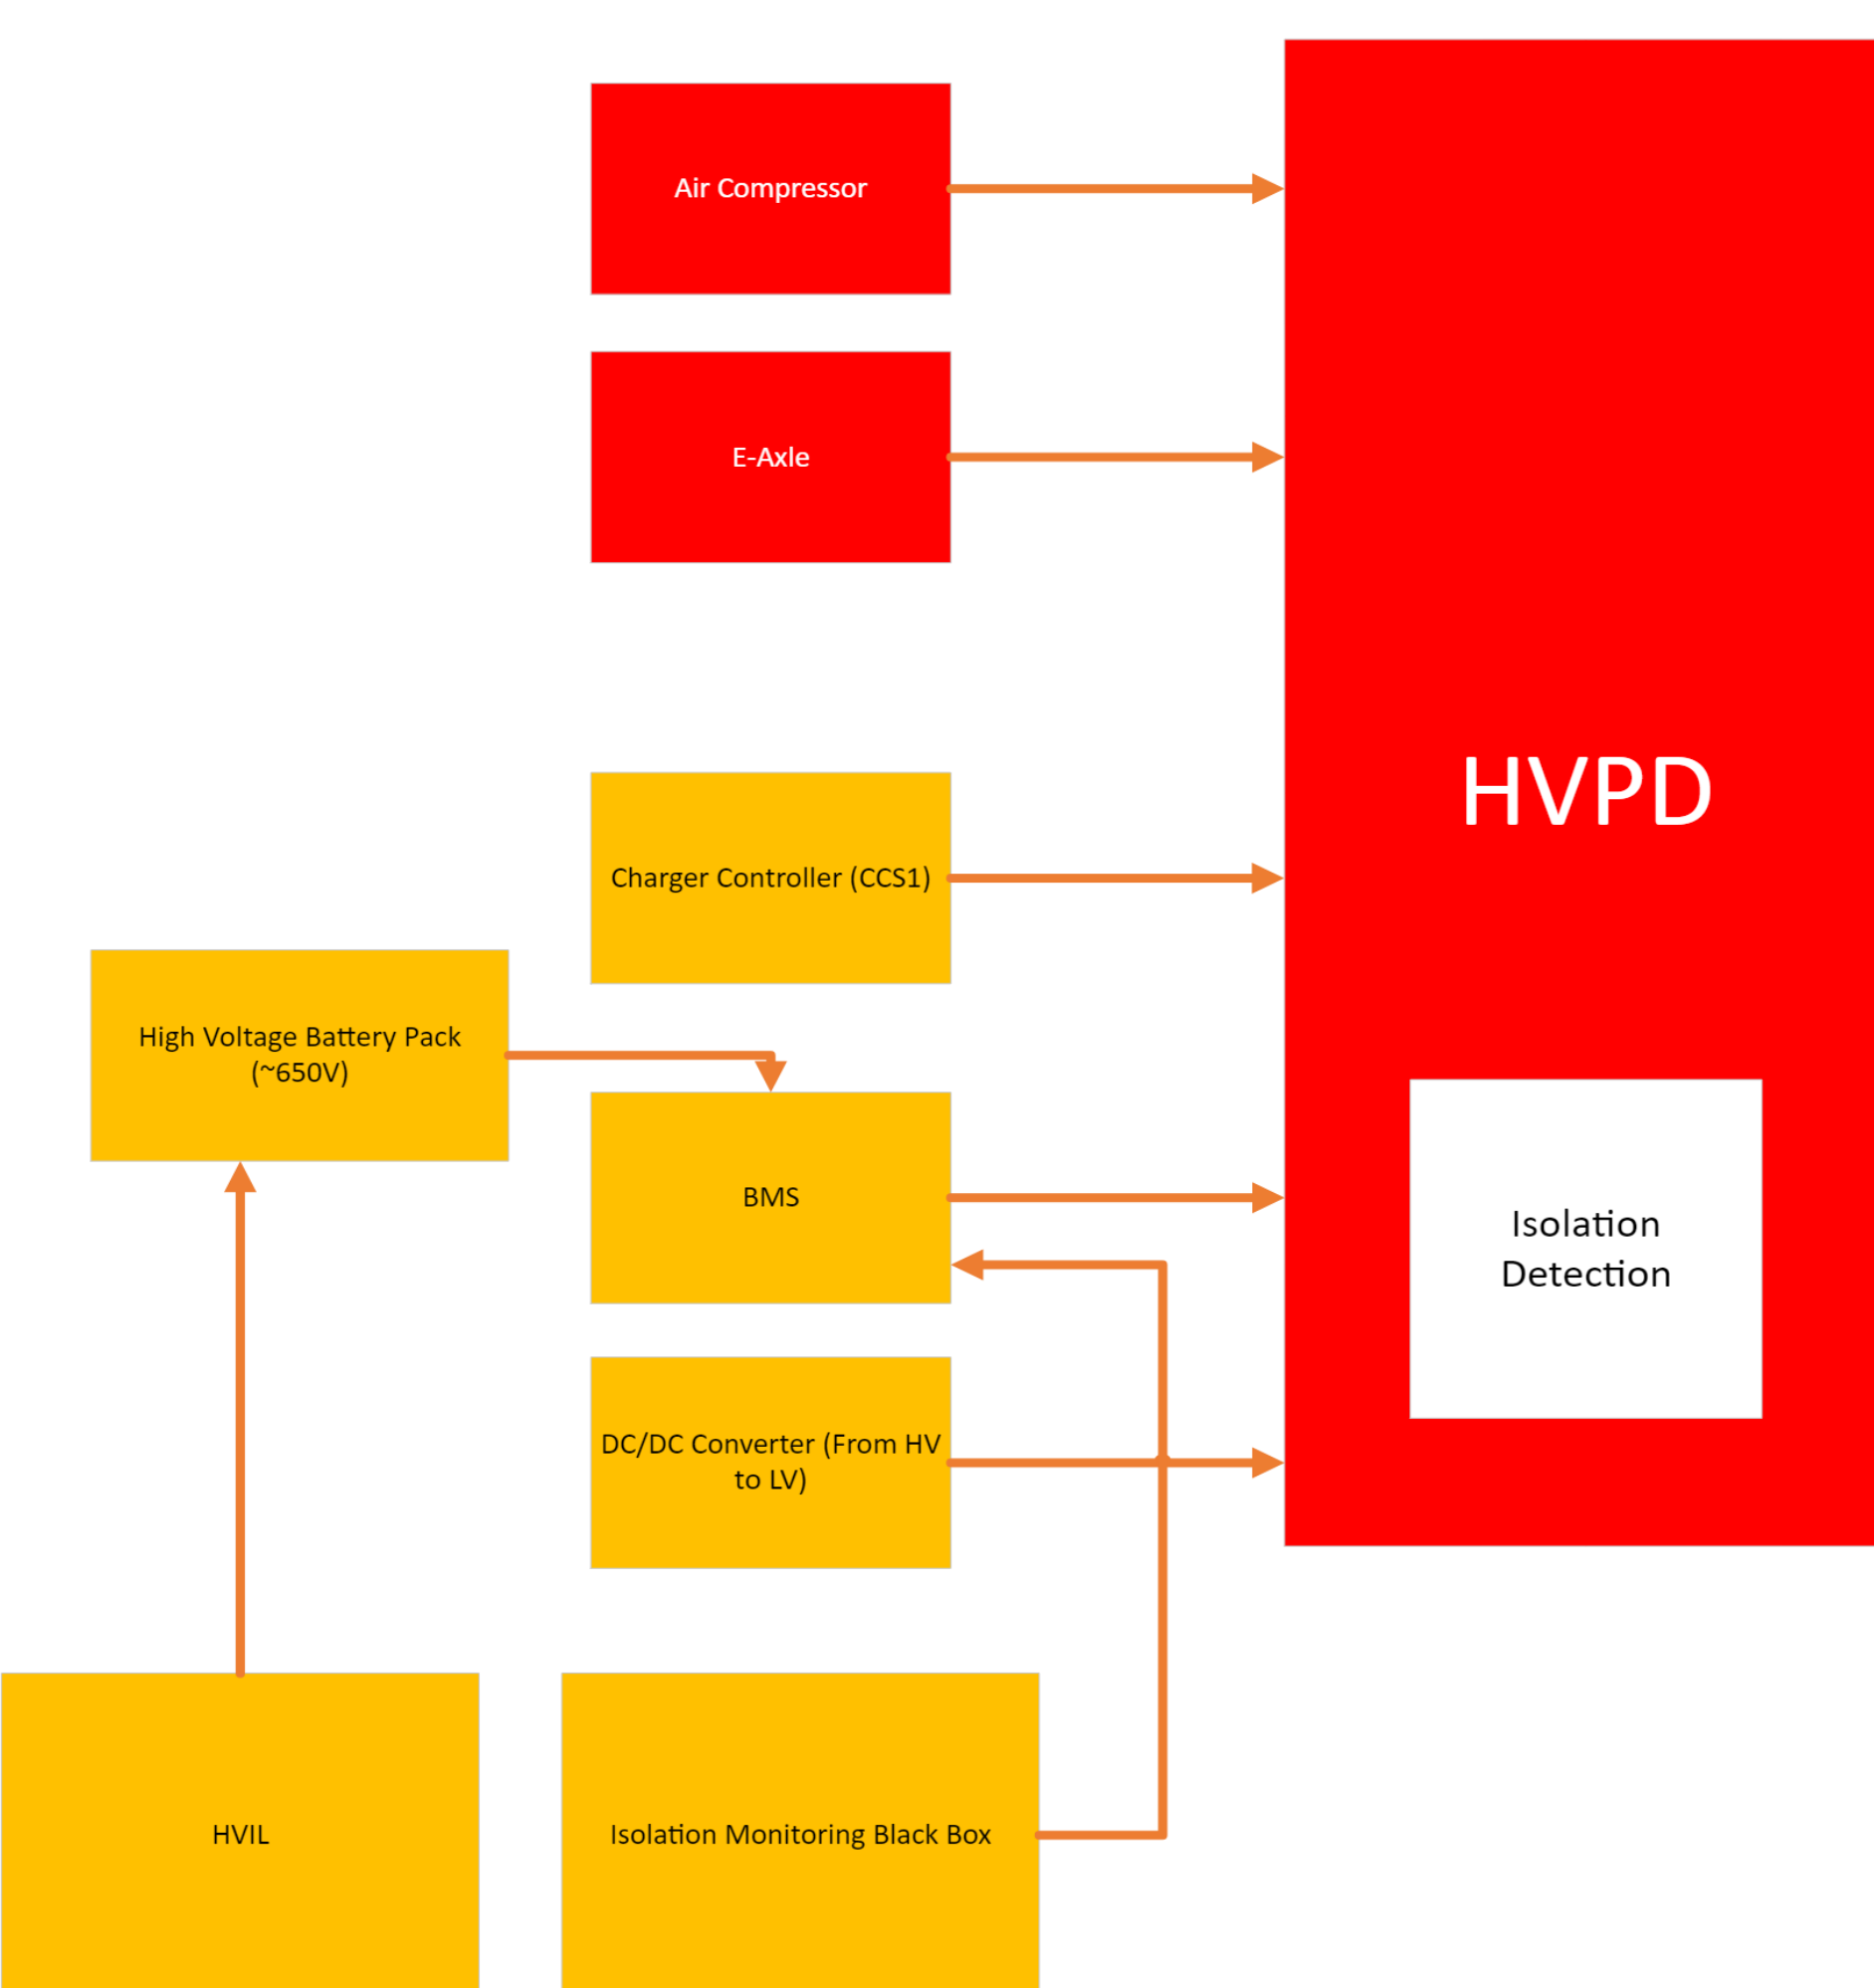
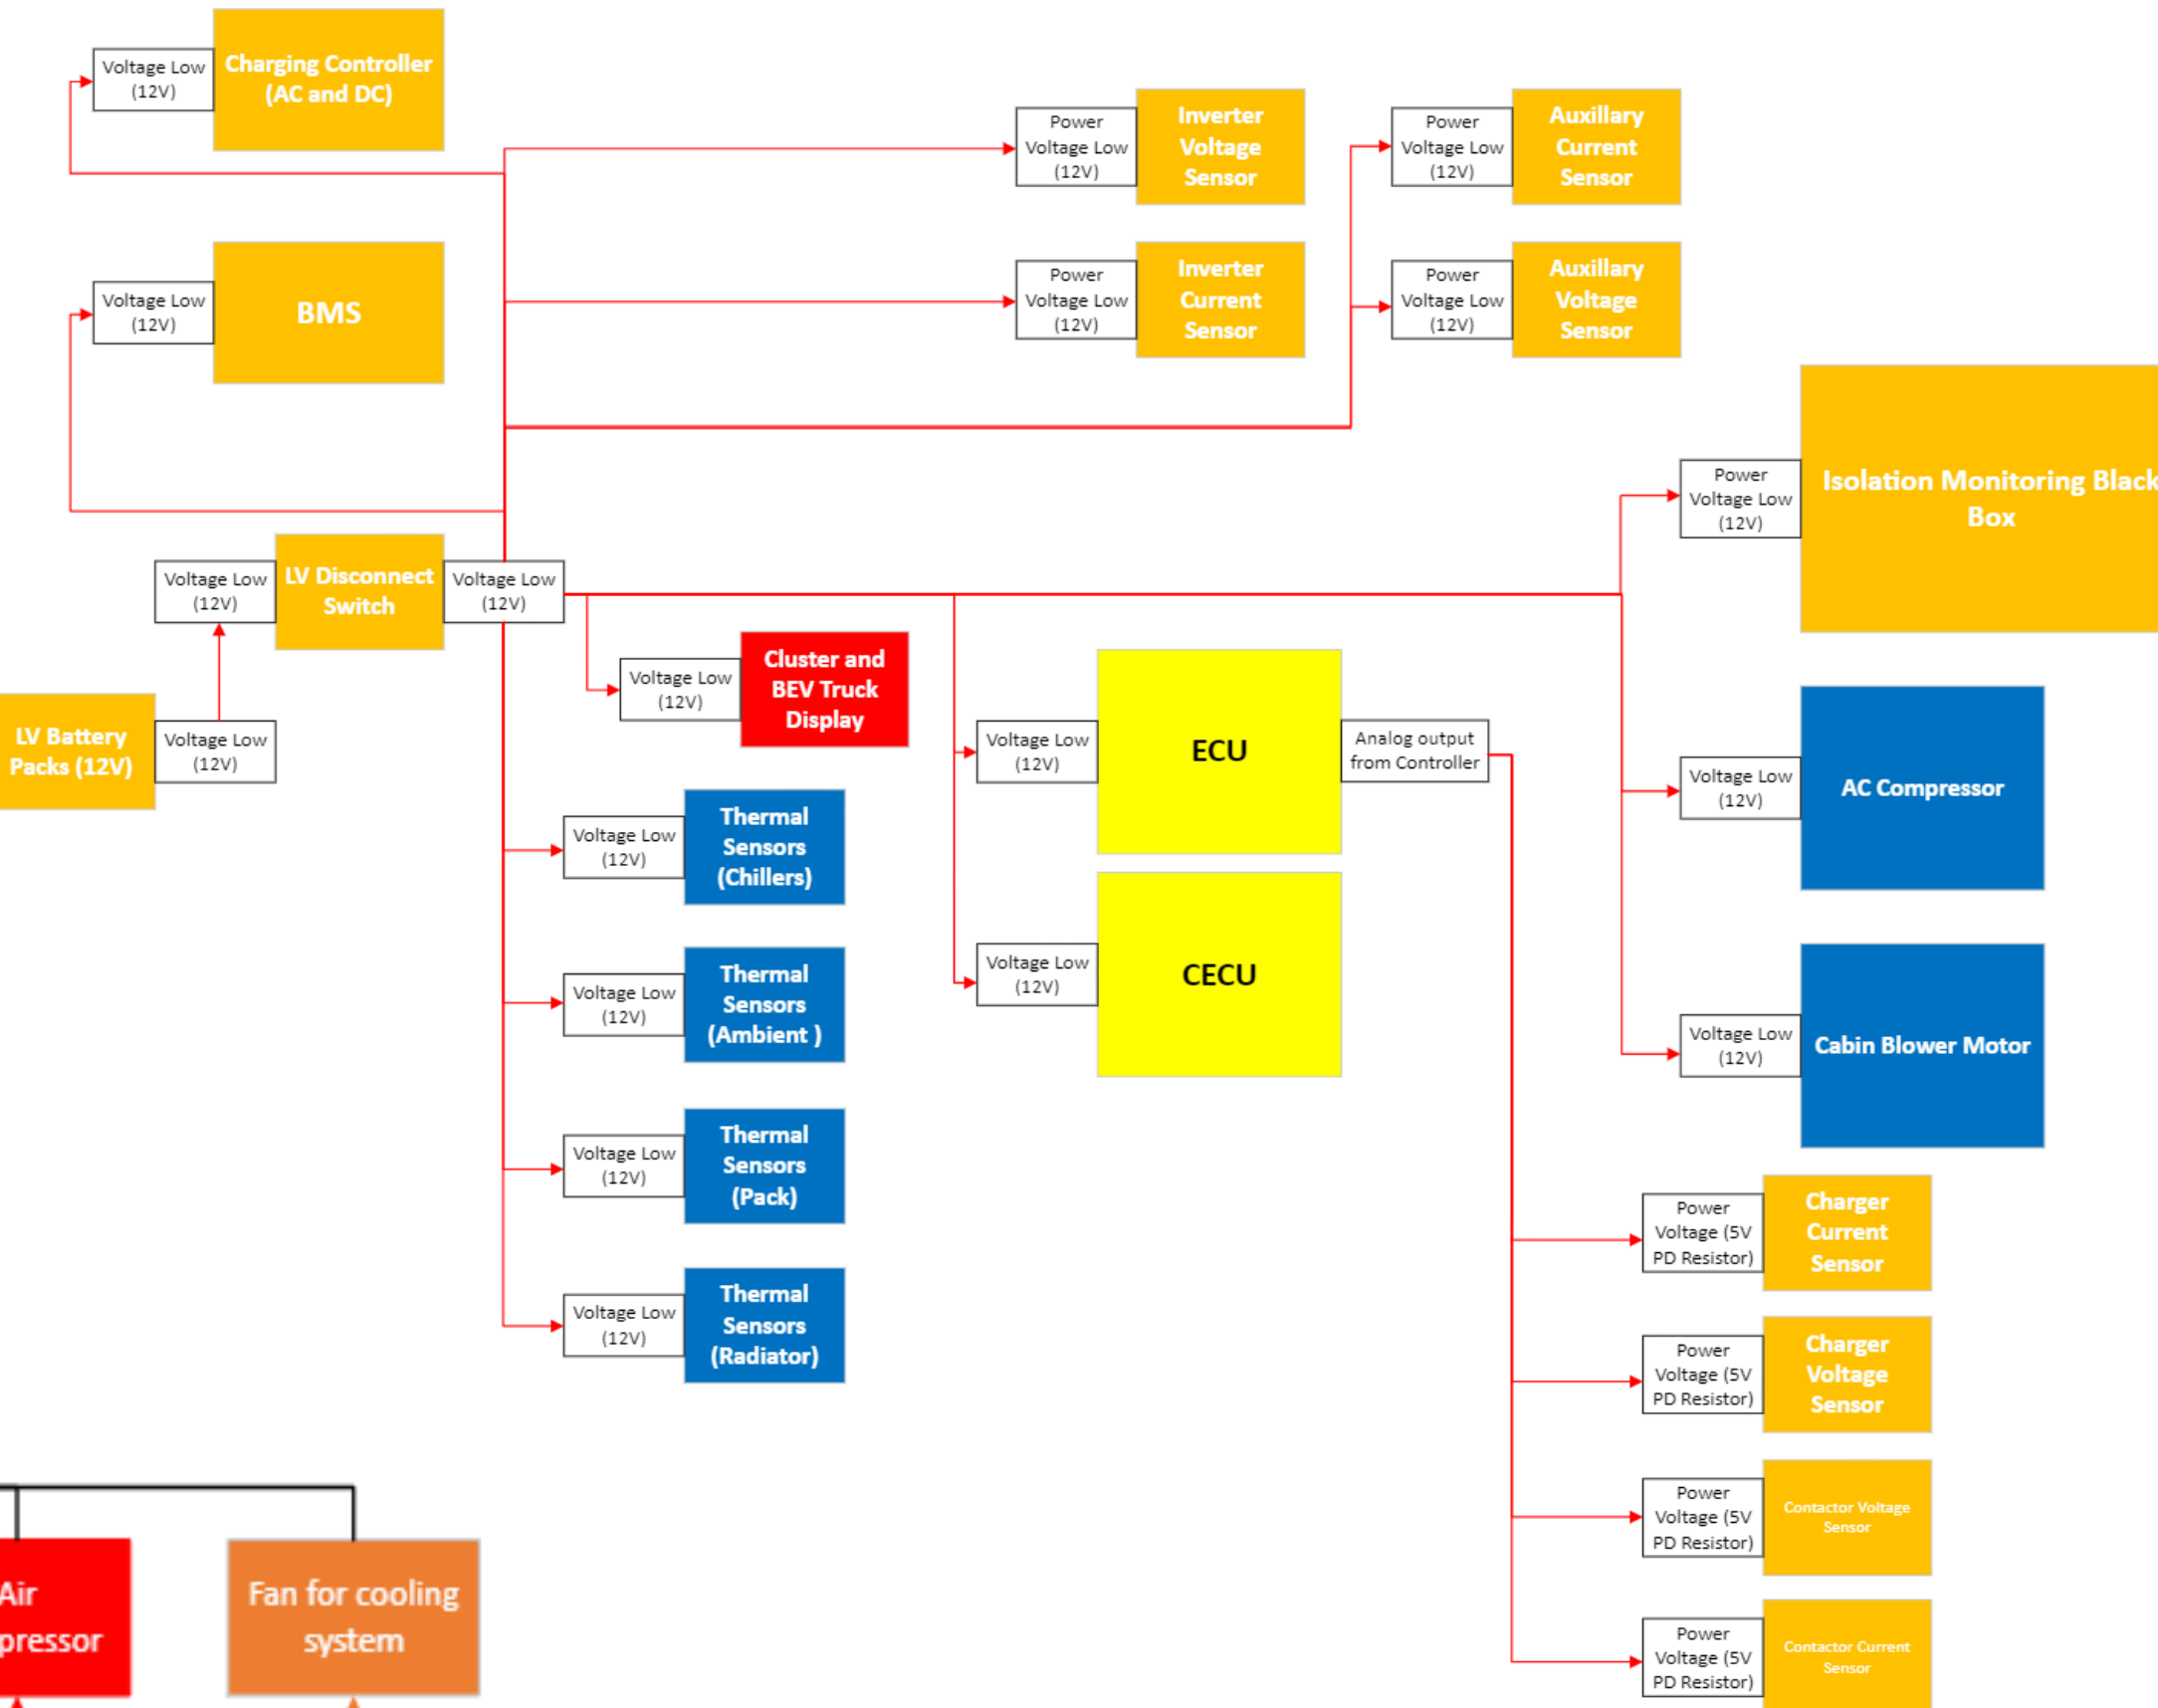

Figure 3: HV Distribution Diagram
Figure 2: LV Distribution Diagram
- From our I/O list, we were able to produce our LV distribution diagram (Figure 2) and our HV distribution diagram (Figure 3).